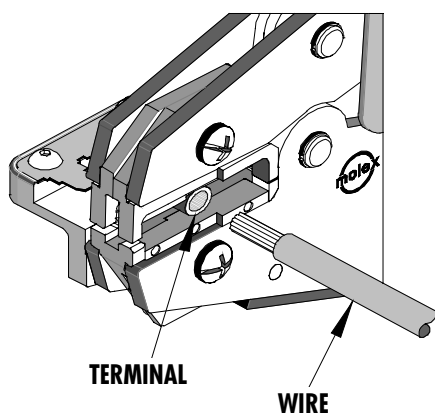

Figure 2
3. Partially close the tool to hold the terminal in place (See Figure 2).
4. Insert the properly stripped wire into the terminal barrel (See Figure 2 and 3). The wires end should butt against the wire stop stamped into each terminal. Cycle the tool.